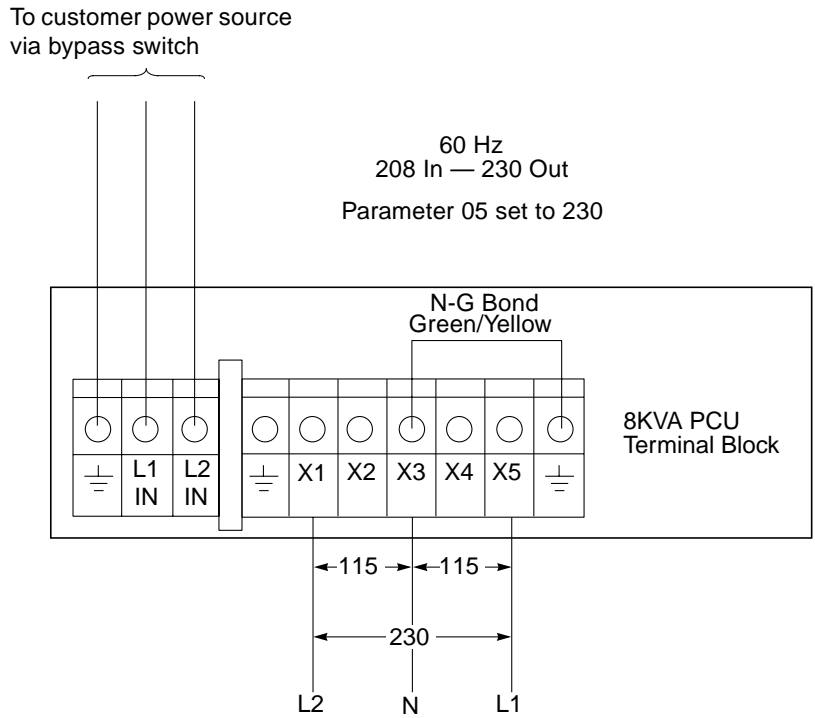
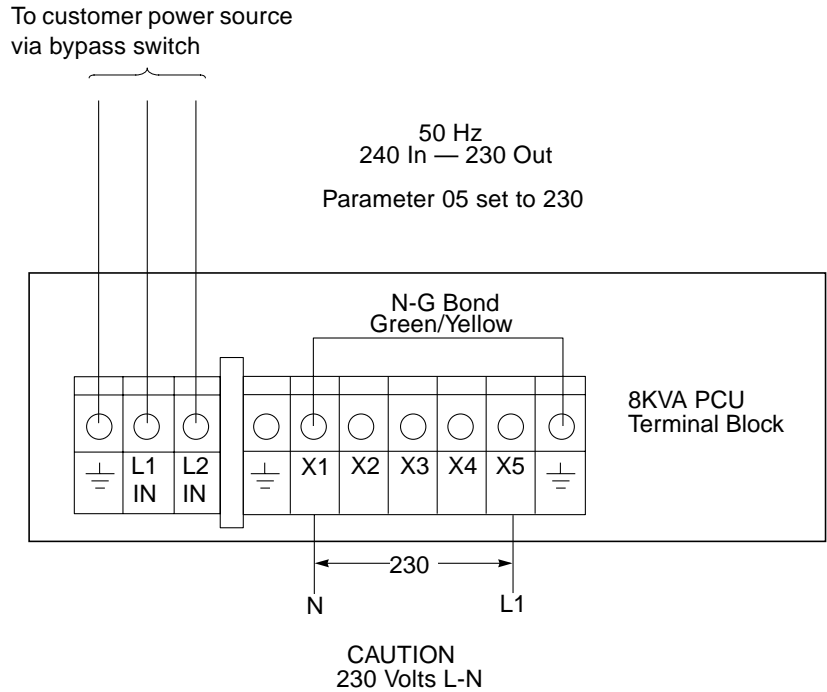

FIGURE 3-3 AC Input to PCU and AC Output from PCU for Domestic (NAFO) Installations
FIGURE 3-4 AC Input to PCU and AC Output from PCU for Many International Installations
4. **Make sure that the terminal block inside the PCU has black output wires connected to terminals X1 and X5 (ground is X3). See FIGURE 3-3 and FIGURE 3-4 for a typical domestic and international installation.**
5. **With a digital voltmeter (DVM), measure the AC voltage between the phases (L1 and L2) and between ground (N) and each phase. See FIGURE 3-3 and FIGURE 3-4. Make sure the voltages are in the range listed in TABLE 3-1.**